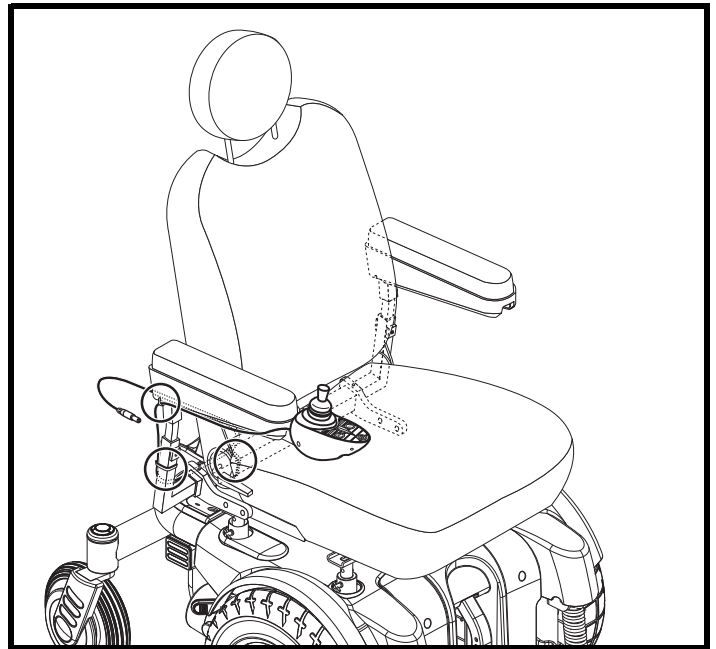

Figure 12. Cable Routing - Contour Seat
7. Route the cable to ensure that the cable cannot be pinched in the seat hinge. See figure 12 or 13.
8. Secure the controller cable to the armrest receiver with one or more wire ties. See figure 12.